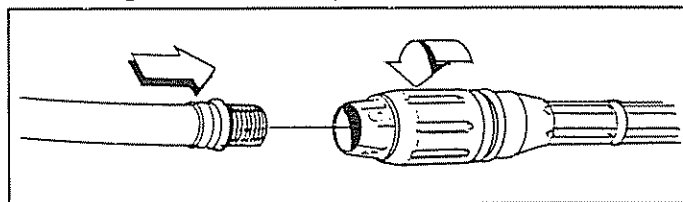

FIG. 30
- Remove additional debris by back flushing water supply through wand (Fig. 30). Back flush between 30 to 60 seconds. Turn wand to stream spray and move nozzle from low to high while flushing.